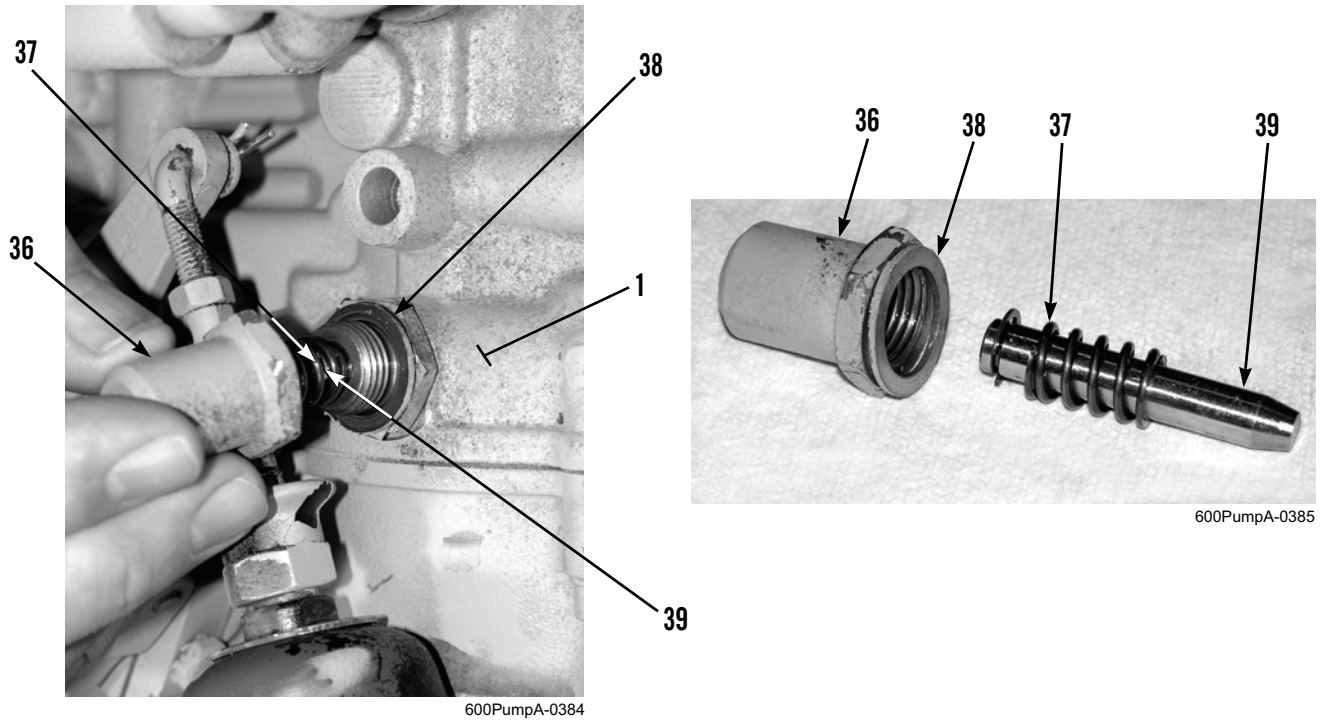

Figure 15. Setting Timing Specification.
3. Remove bolt sleeve (Figure 15, Item 36), copper sealing ring (Figure 15, Item 38), positioning pin (Figure 15, Item 39), and compression spring (Figure 15, Item 37) from fuel injection pump (Figure 15, Item 1).
4. Remove compression spring (Figure 15, Item 37) from positioning pin (Figure 15, Item 39).